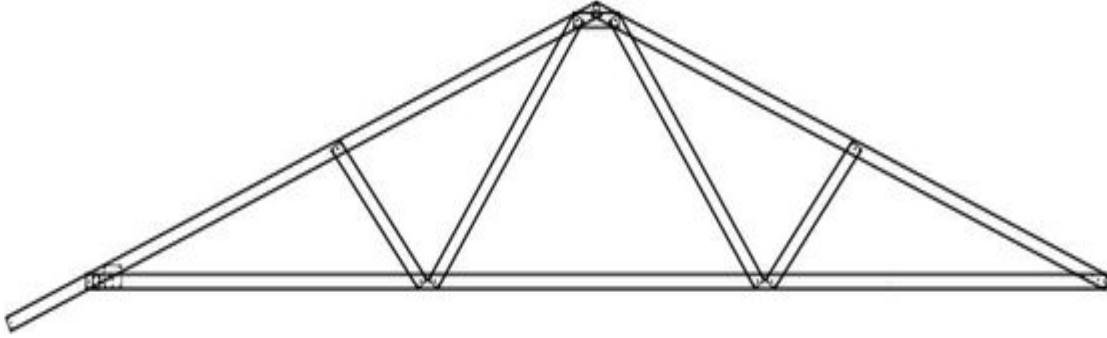

Figure 5.5 Bridge Truss
**5.4) Bridge Truss:** This truss type can be either a standard truss or a truncated truss with the overhang removed at the heel. A TBJ45 bridge bracket is fitted to connect the truss to a beam or girder truss. (Refer Fig. 5.5)